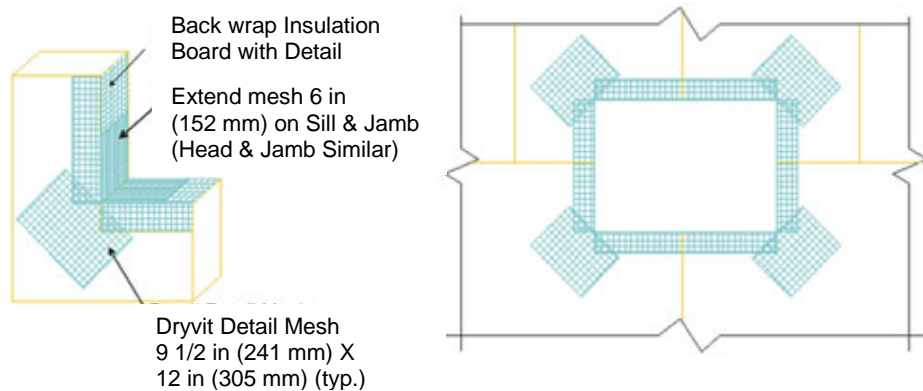

Figure 2
4. Corners of all openings such as windows, doors, mechanical equipment and all penetrations shall be reinforced with Detail Mesh placed diagonally to the opening as illustrated in Figure 2.